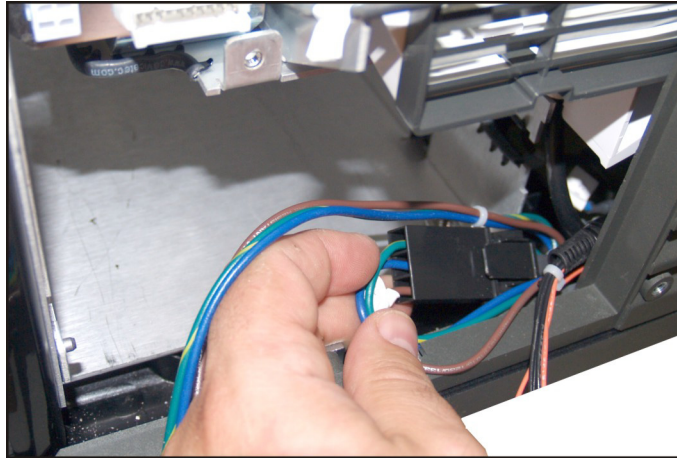

Figure 5-39 Disconnect AC Harnesses
6. Disconnect the two AC harnesses using the inline connectors (**Figure 5-39**).